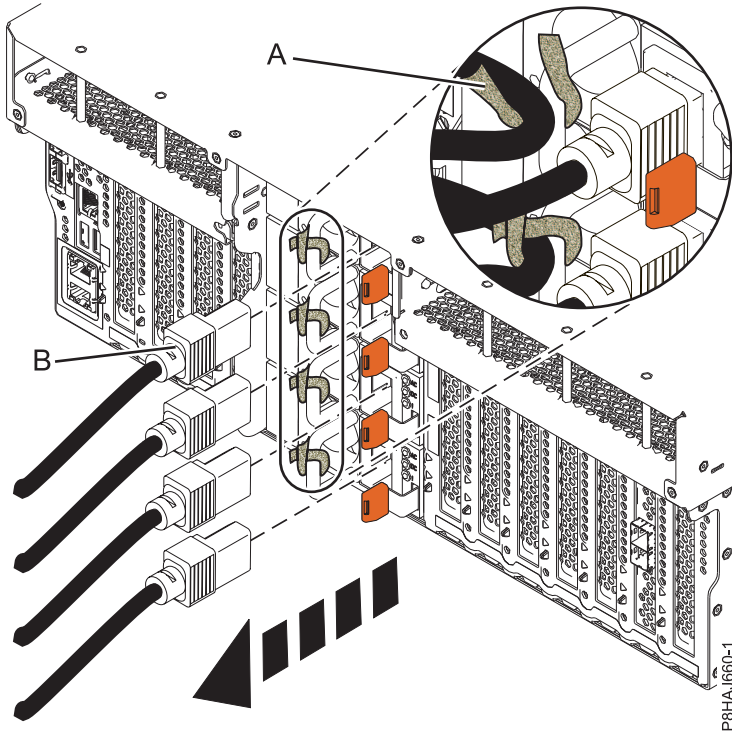
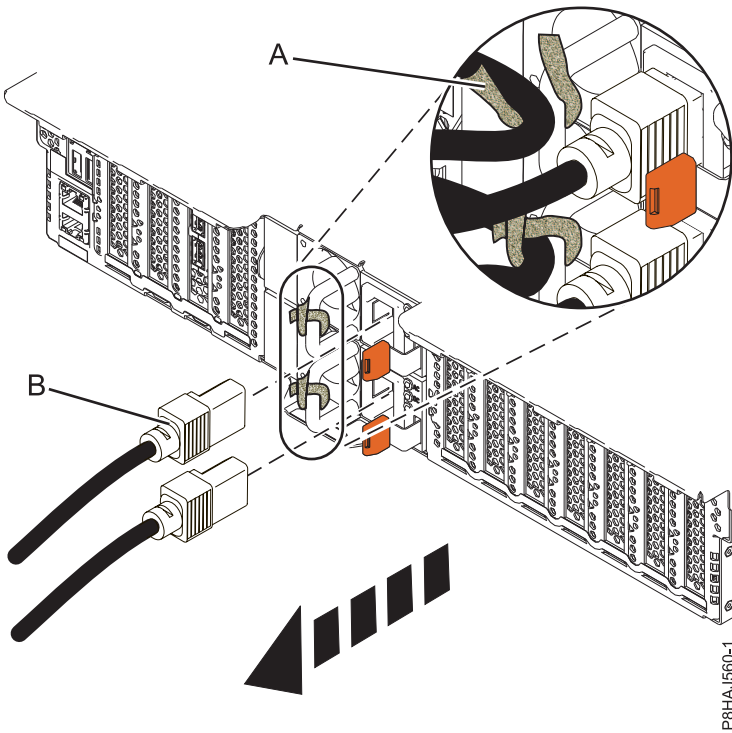
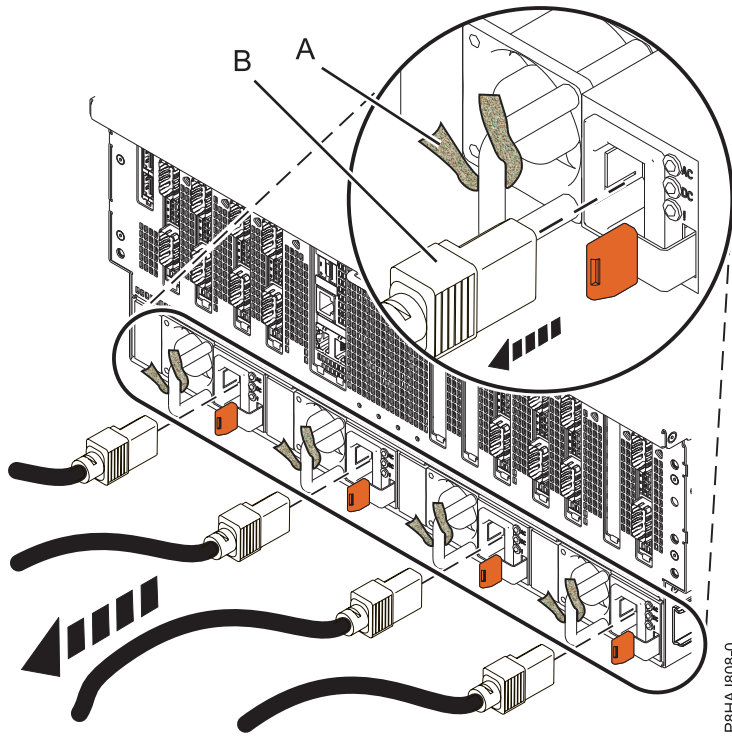

Figure 251. Removing the power cords from an 8247-42L, 8286-41A, or 8286-42A system
Figure 252. Removing the power cords from an 5148-21L, 5148-22L, 8247-21L, 8247-22L, 8284-21A, or 8284-22A system
Figure 253. Removing the power cords from an 8408-44E or 8408-E8E system
3. Disconnect the power cords (**B**) from the system unit. See Figure 251 on page 262, Figure 252 on page 262, or Figure 253 on page 263 or depending on the type of your system.